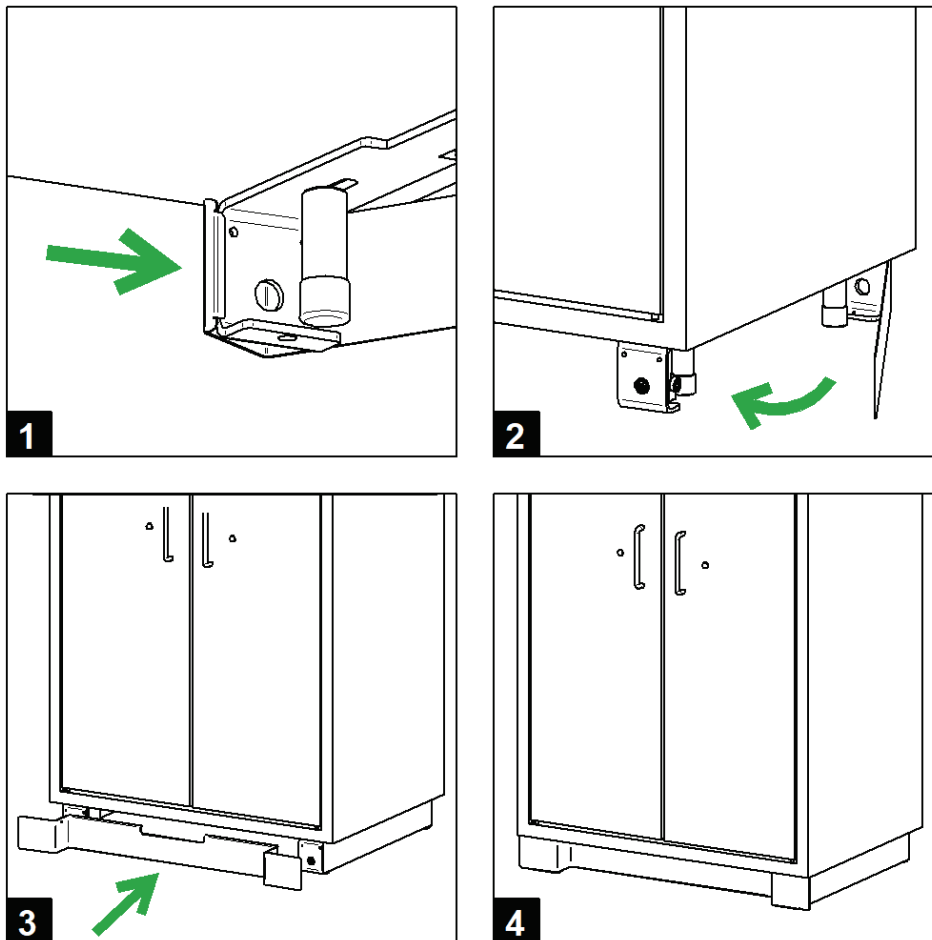

Fig. 16: Fitting the plinth panel
- ➔ Check the alignment of the safety storage cabinet (Fig. 16).